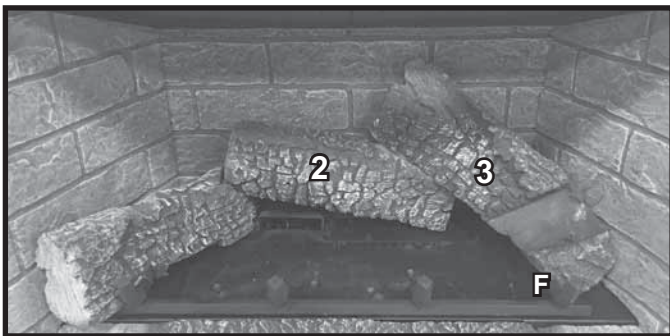

Figure 18. Log #3 Installed
**LOG #3:** Place lower right side of Log #3 against pin F and burnout end of Log #3 on flat spot of Log #2. Slide the burnout end of log back until it contacts the back refractory. The back of right side of log will contact the right side refractory. See Figure 18.